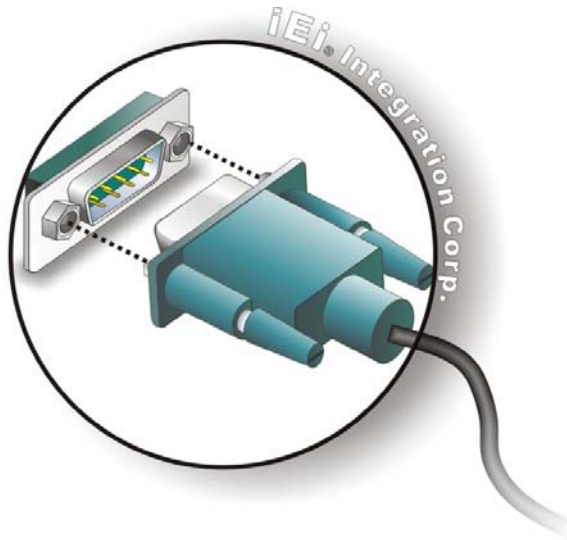

Figure 4-23: Serial Device Connector
**Step 2:** **Insert the serial connector.** Insert the DB-9 connector of a serial device into the DB-9 connector on the external peripheral interface. See **Figure 4-23**.